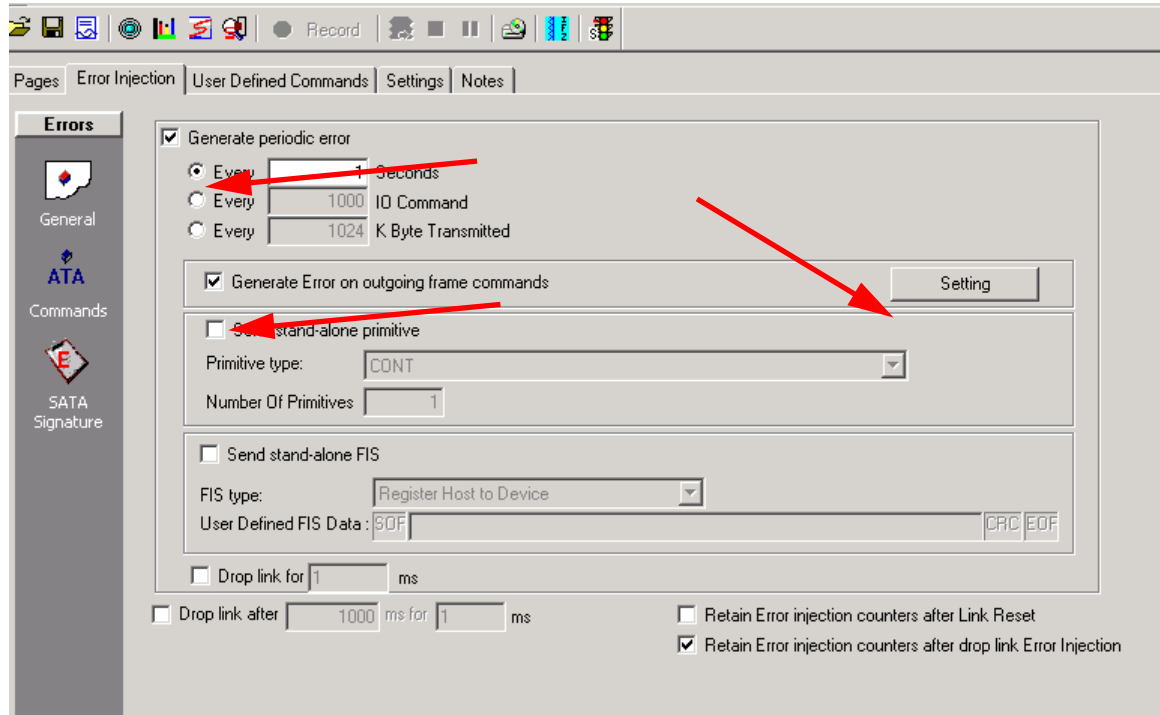

Figure 2.193: SATA: Error Injection Tab
2. Select the **Error Injection** tab (see Figure 2.193 on page 194.)